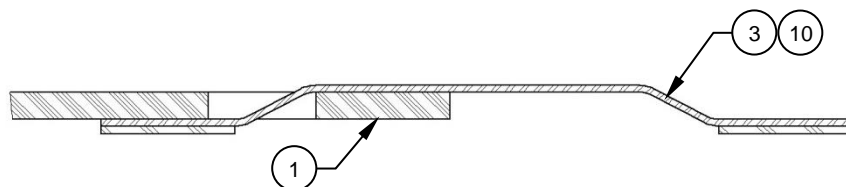

Figure 4
6. Install the provided fasteners (Item 10) as shown. Reference Figures 4 & 5